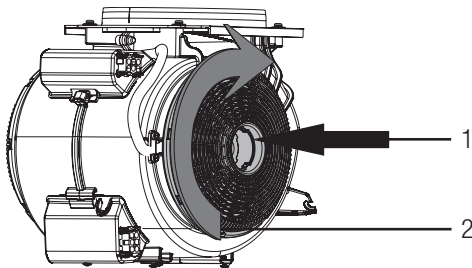

Figure 4: Carbon Filter
1. Place the carbon filter in its housing. Figure 4
2. Rotate the carbon filter clockwise and make sure that it is seated completely. Figure 4